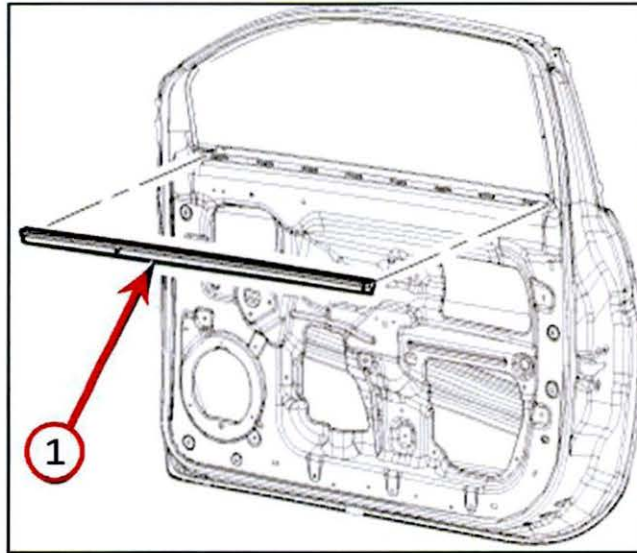

Fig. 6 Inner Belt Mold Installation
NOTE: Make sure that the inner belt mold (1) is reinstalled correctly as it is possible to be incorrectly installed (upside down). If installed incorrectly, this may affect glass movement once the door panel is reinstalled (Fig. 6).